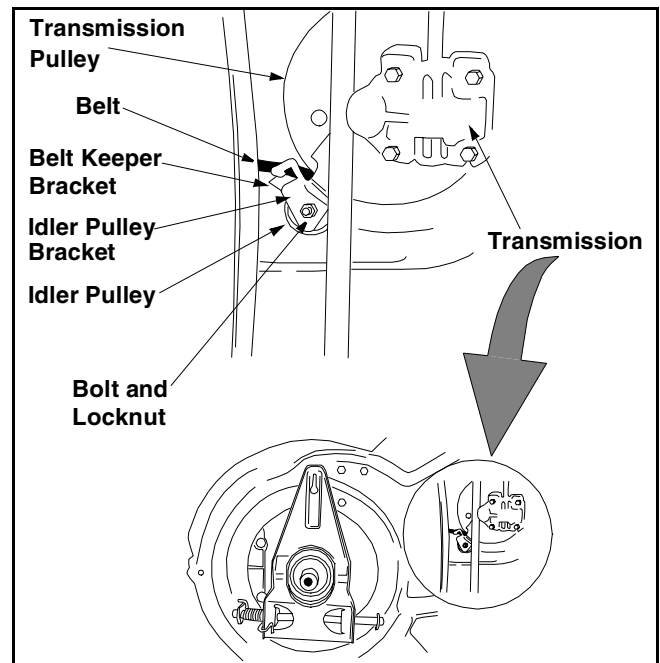

Figure 20
- Tilt the transmission forward and loosen the idler pulley bolt and lock nut half a turn. See Figure 20.
- Using pliers, rotate the belt keeper bracket so that it snaps into slot on the idler bracket. Refer to Figure 20.